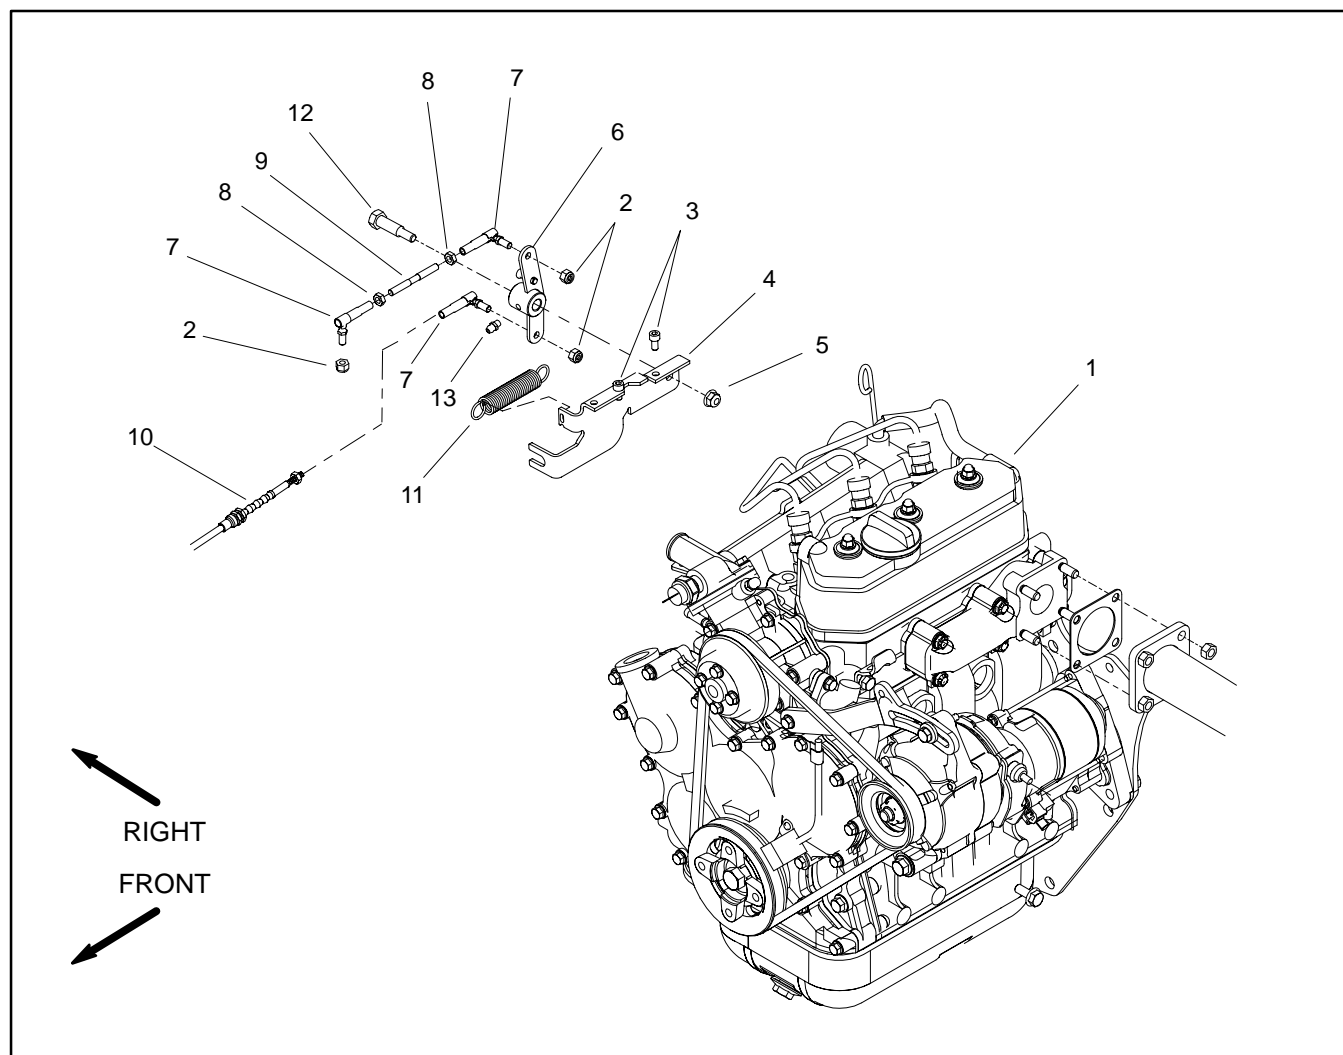

Figure 15
Disassembly (Fig. 15)
1. Remove throttle bracket components from engine as needed using Figure 15 as a guide.
Assembly (Fig. 15)
1. Install removed throttle bracket components to engine using Figure 15 as a guide.
2. Lubricate bellcrank grease fitting (item 13) after assembly.